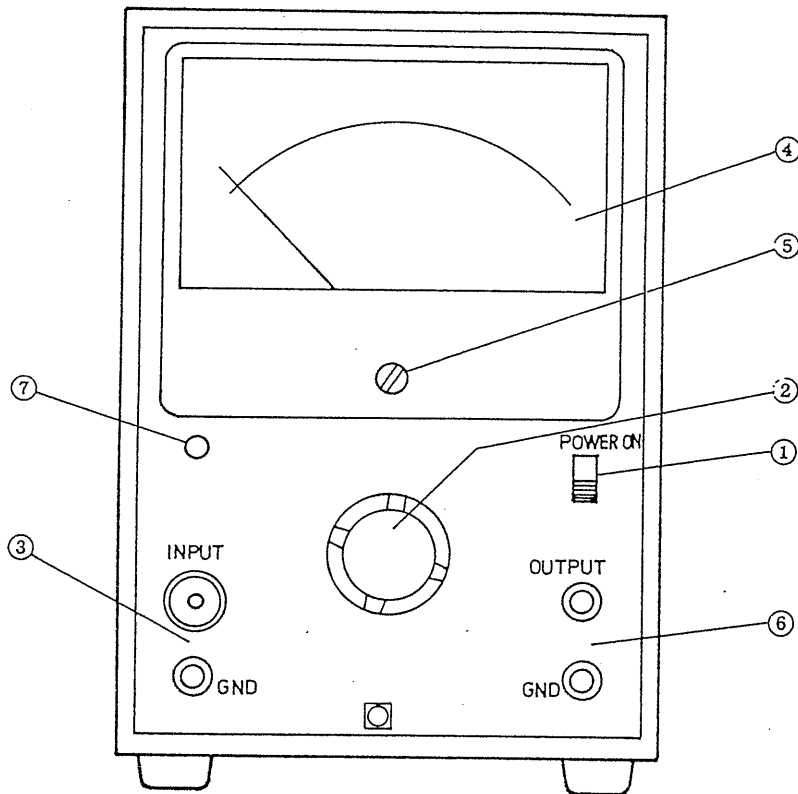

Fig. 3-1
- (1) Turn OFF the POWER switch at the right-hand side on the front panel.
- (2) Check that the meter pointer is settled accurately at the zero scale position. If it is not, set it accurately in the zero position as explained in Item (5) "ZERO adjustment" of Sub-section 3.1 "Preparation for Measurement." (Refer to Fig. 3-1.) If the voltmeter power has been OFF, turn it and allow more than 5 minutes so that the meter pointer is settled in a position close to the zero scale position.